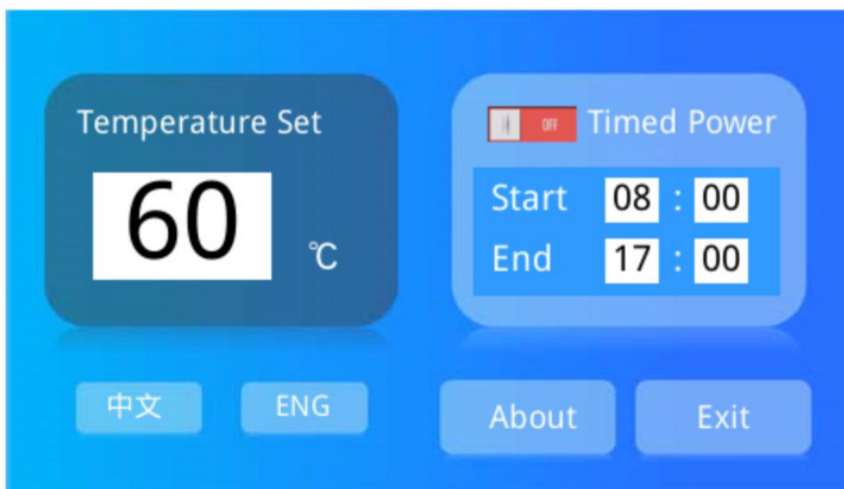

Figure 11
6. Cold and hot tables: The operation of the cryo and thermo console is basically the same as that of the main console, and the working interface is shown in Figure 11;